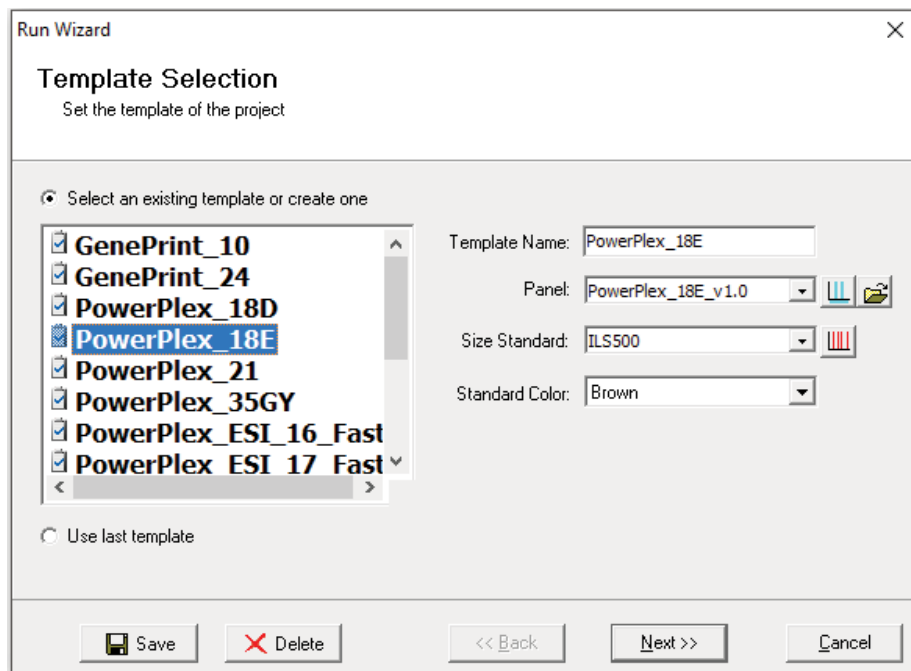

Figure 29. The 'Template Selection' window.
- Choose **Run** in the Magic Wizard or select the **Run Project** icon (green arrow) in the toolbar. The 'Template Selection' screen will appear (Figure 29). Select the PowerPlex_18E template and the settings shown in Figure 29. If the PowerPlex_18E template is not available, check the "Select an existing template or create one" box and provide a new name. Select the PowerPlex_18E panel that you created in Steps 6–8 from the panel drop-down field. The Size Standard must be ILS500 and the Standard Color must be Brown. Select **Save** to ensure this template will be stored among the other analysis run templates. Select **Next**.